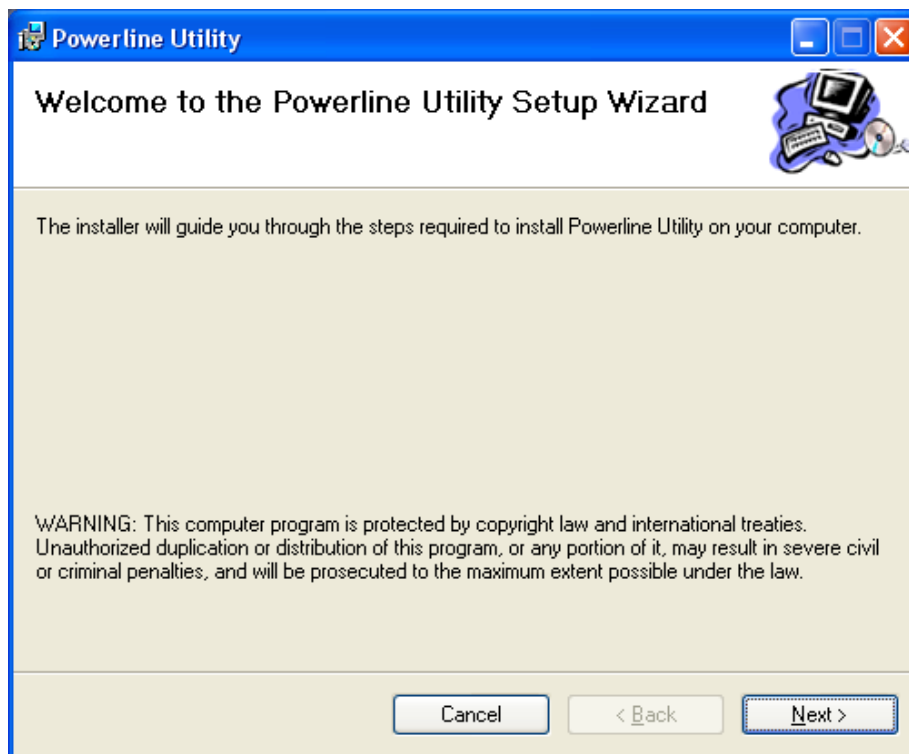

Figure 2-1
2. If you click the **"Powerline Utility"** button, the screen will appear as shown in Figure 2-1. Click the **"Next"** button to continue.